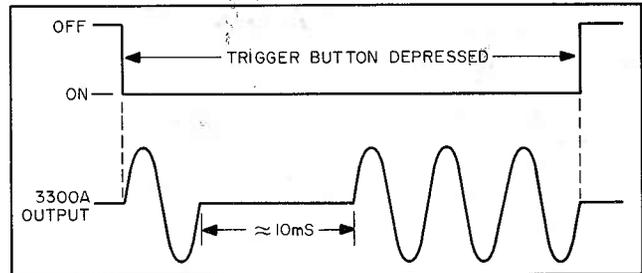

Figure 3
b. At high frequencies, above 1 kHz, the 3300A will generate one cycle immediately after the MANUAL TRIGGER button is depressed and then it will shut off momentarily. Approximately 10 ms later, the 3300A will start oscillating again, this time continuously as long as the MANUAL TRIGGER is depressed. See Figure 3.